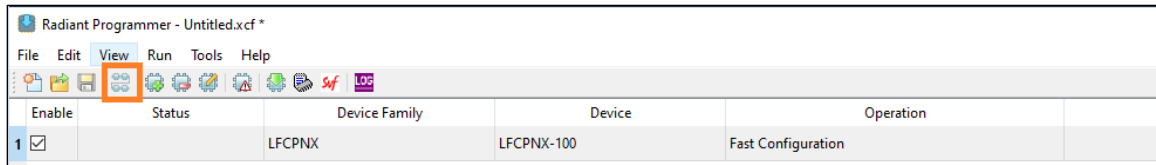

Figure 8.2. Lattice Radiant Programmer Scan Device Icon
6. Click the Scan Device icon in the ribbon to scan the device (Figure 8.2).